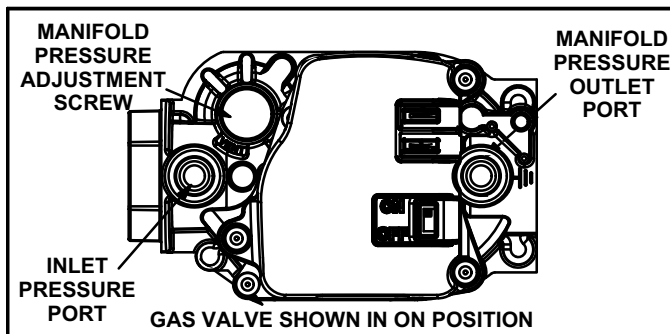
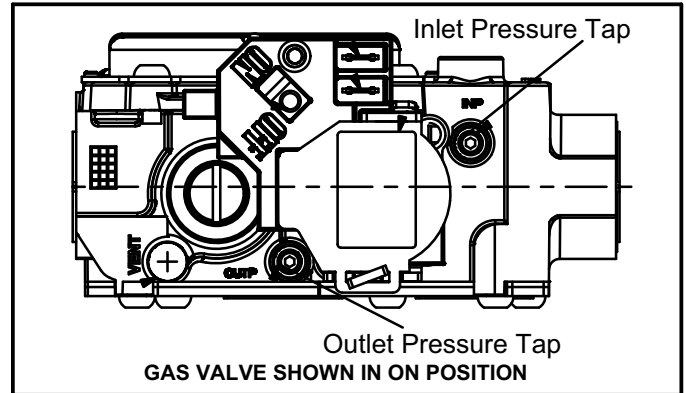

FIGURE 2
FIGURE 3
Operating the Gas Valve (Figure 2 and Figure 3)
- 6 - Move switch on gas valve to **OFF**. See figure 2 and figure 3.
- 8 - Move switch on gas valve to **ON**. See figure 2 and figure 3.